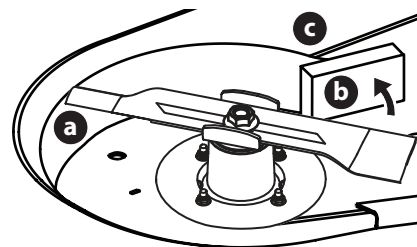

Fig. 44
- Wrap a rag around one end of the blade (a) and grasp it to prevent it from turning, or secure the blade (a) by placing a block of wood (b) between the blade (a) and the deck housing (c) (Fig. 44).